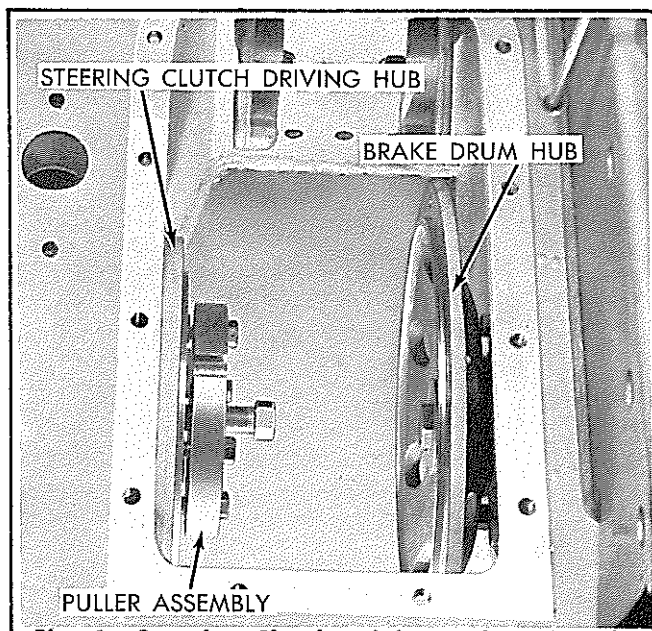

Fig. 6 — Steering Clutch Driving Hub and Brake Drum Hub Puller Installed
3. Unlock the steering clutch driving hub retaining capscrew and remove the capscrew, lock, and retaining washer. Using a puller plate similar to the one shown in Fig. 6, pull the driving hub from the shaft. Remove the driving hub, throwout bearing, and throwout yoke assembly.